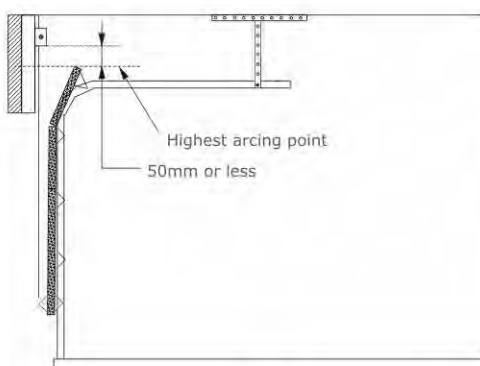

Fig 4
- Determine the highest arcing point of the garage door and mark this as a horizontal line on the header above the top edge of the garage door. (Figs.4 & 5)